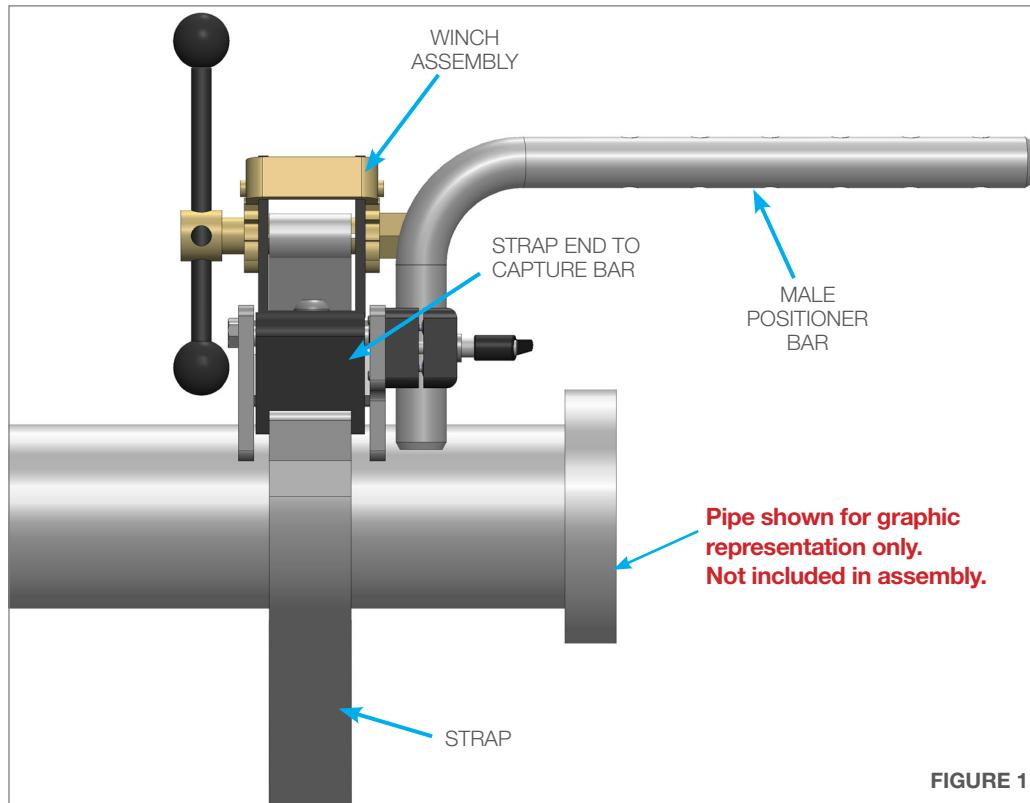

FIGURE 1
1. Attach the strap end to the strap capture bar and wrap the strap around the pipe towards the Winch Assembly. (**Figure 1**)